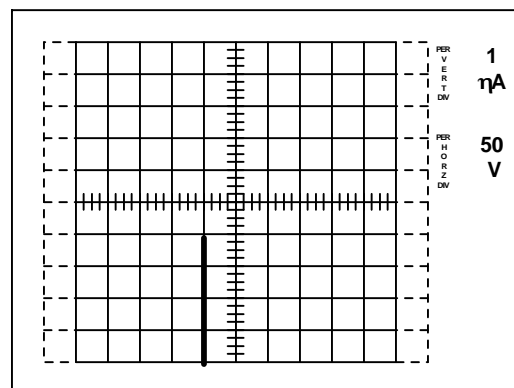

Figure 3. Drain-source leakage current
2. Connect the device using the LEFT/RIGHT switch and adjust the collector supply voltage to the rated voltage of the HEXFET Power MOSFET (200V for the IRF630). Read the value of I_{DSS} from the display (see Figure 3). The vertical sensitivity may need altering to obtain an appropriately sized display. Often I_{DSS} will be in the nanoamp range and the current observed will be capacitor currents due to minute variations in collector supply voltage.